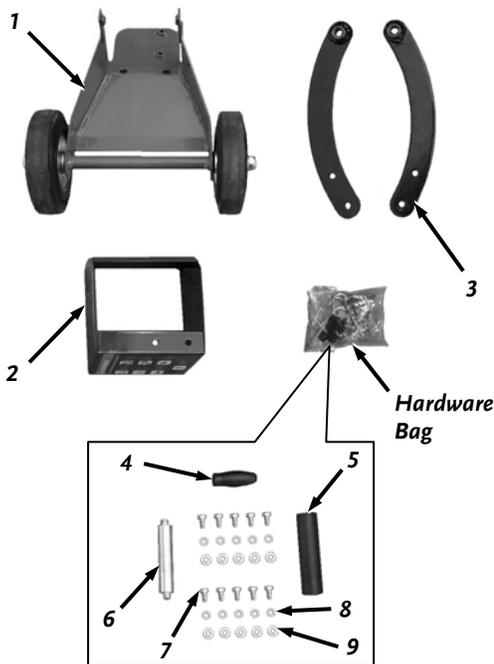

Figure 2
2. Remove the Carrying Handle Brackets, Carrying Handle, Rolling Wheel Bracket w/Wheels, Control Lever Guard, and Hardware Bag from the top section of the foam insert (**Figure 2**).
Compare the Parts (**Figure 2 and Table above**) with the parts you removed from the Shipping Box. If you have any Questions or if you need assistance, contact us at [www.DRpower.com](http://www.DRpower.com) or call Toll-Free 1-800-DR-OWNER (376-9637).